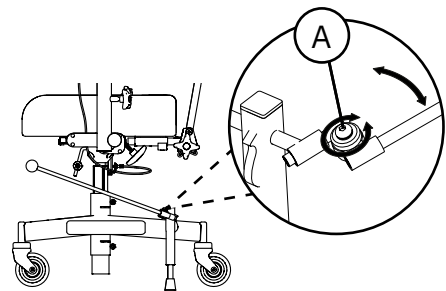

Figure 5.17. Handbrake lever adapter.
The adapter can be placed on the right or left side of the base and adjusted at an angle (A), see Figure 5.17. The adapter is placed in the brake lever bracket and the brake lever is then placed in the adapter.